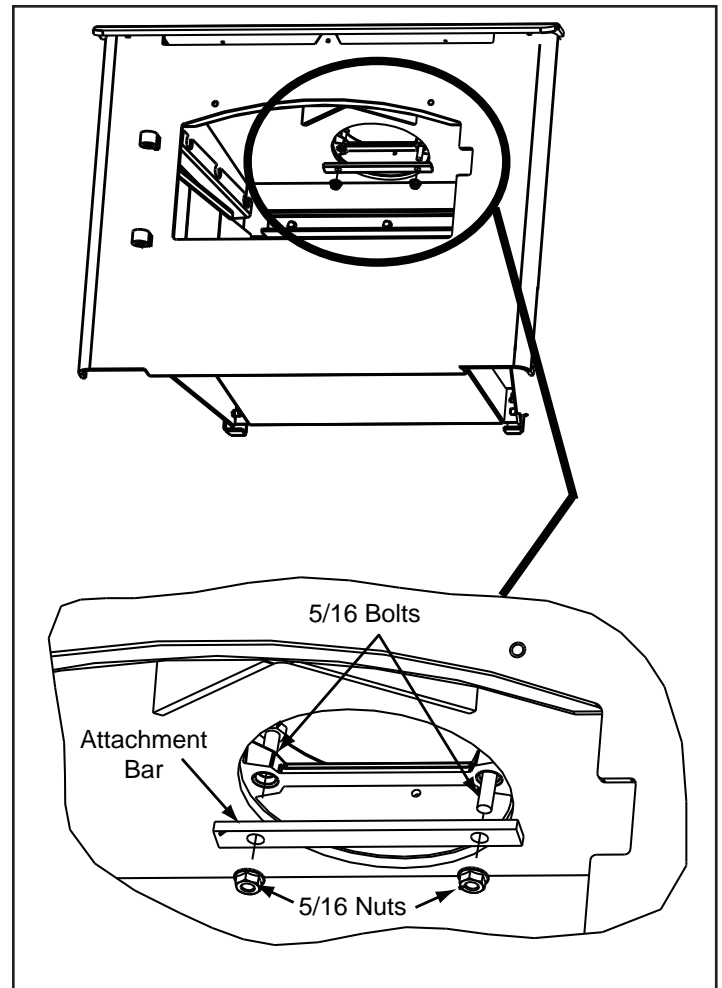

Figure 20.2
1. Once you have the appliance in place and secured, reach up through the flue opening and grab the attachment bar and pull down inside flue opening. **Figure 20.2.**